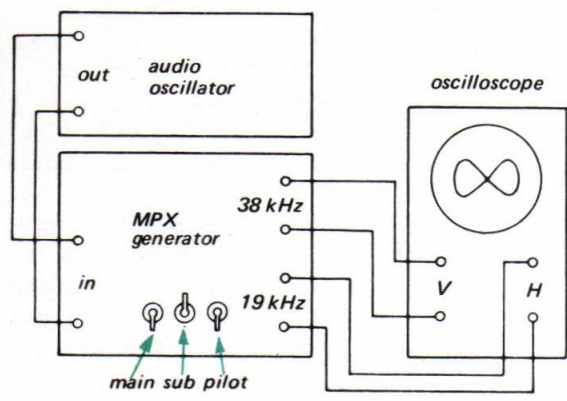

Fig. 3-6. MPX generator preadjustment
1. With the equipment connected as shown in Fig. 3-6, set the MPX and audio signal-generator's control as follows: